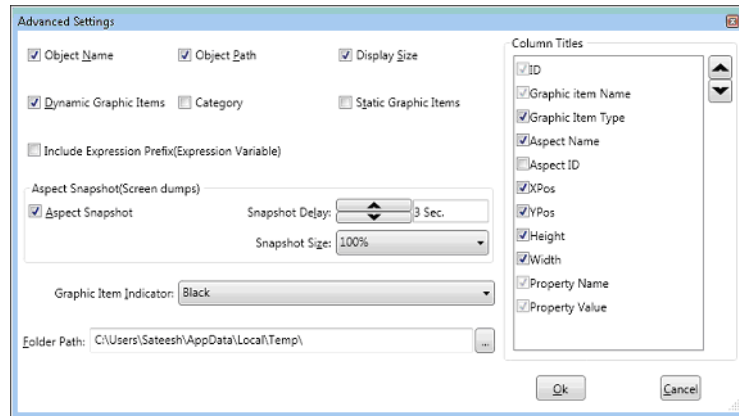

Figure 66. Advanced Settings
1. Type the path in **Folder Path** in the **Advanced Settings** dialog as shown in Figure 66.